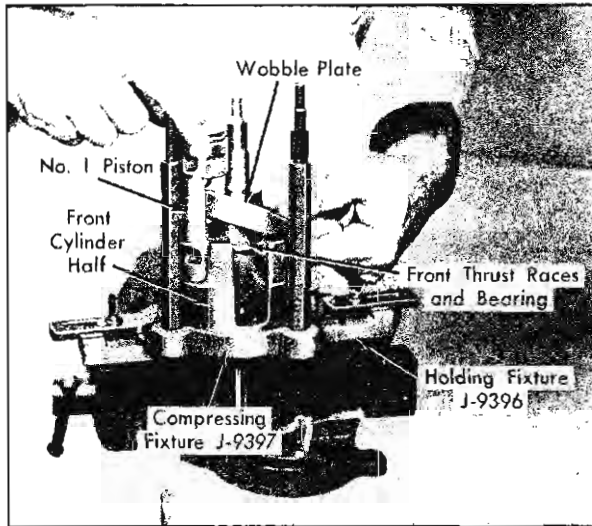

Fig. 34—Installing Piston, Front Ball and Seat and Rear Ball
8. Rotate the shaft and wobble plate until the high point of the wobble plate is directly over the cylinder bore previously designated as No. 1. Lift up slightly on the shaft and wobble plate assembly, insert the front (notched) end of the No. 1 piston into the cylinder bore, and at the same time, place the front ball and seat and the rear ball only over the wobble plate (fig. 34). Hold front thrust bearing pack tight against wobble plate hub while lifting shaft.